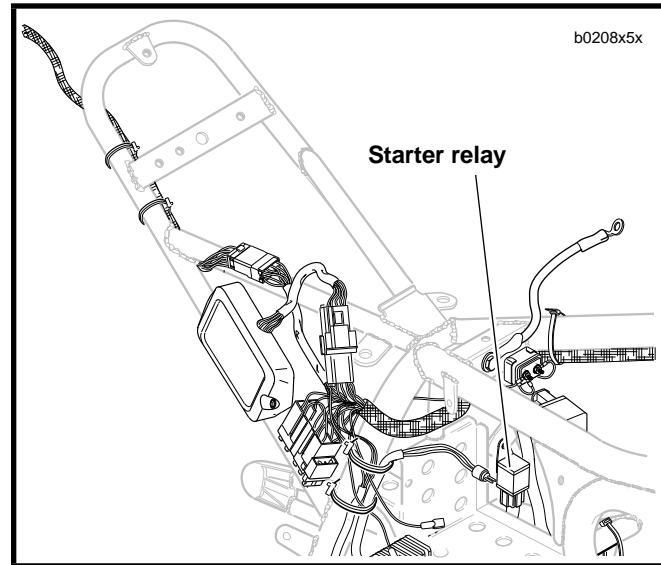

Figure 5-5. Starter Relay Location
1. See Figure 5-5. Locate starter relay. The relay is attached to the frame near the oil tank's feed hose. Unplug relay connector.